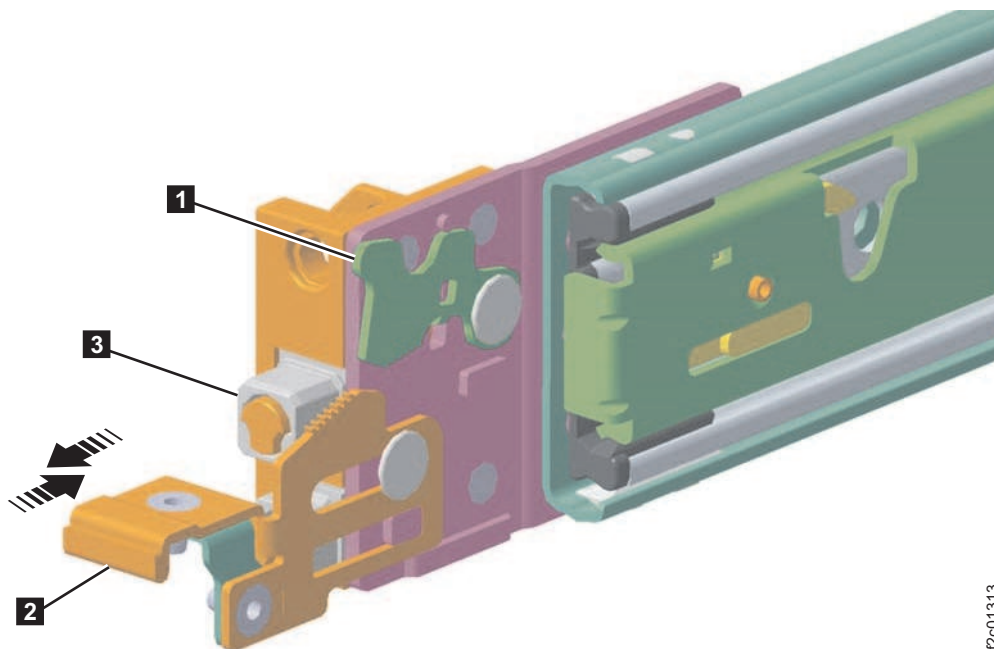

Figure 1. Slide rails for the Storage Appliance AP1 tray
- c. Place the front of the slide rail into the EIA holes by lifting **1** and pulling out **2**. The center locating pin **3** can be used in a square or round hole. Push the front of the slide against the rack and then downward until the large part of the blue pin fills the round hole or the outer square fills the square hole. Push the tab **2** back in. (Figure 1 on page 10)